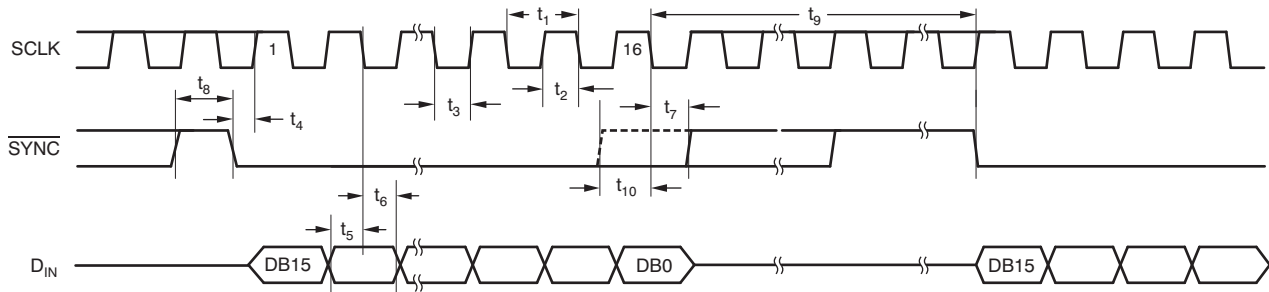

Figure 1. Serial Write Operation: 14-Bit (DAC8311)
(1) All input signals are specified with $t_{\text{R}} = t_{\text{F}} = 3\text{ ns}$ (10% to 90% of AV_{DD}) and timed from a voltage level of $(V_{\text{IL}} + V_{\text{IH}})/2$.
(2) See Figure 1 timing diagram.